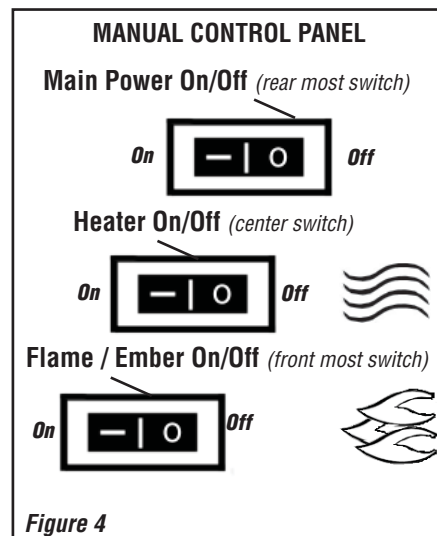

Figure 4
MANUAL CONTROL PANEL OPERATION (refer to *Figures 4 & 5*)
This appliance can be operated either from the manual control panel (see **Figures 4 & 5**) or by using the remote control, wall switch or wall thermostat (optional kits).
- To control the electric fireplace by remote control, the main power on/off switch should be in the off position. This switch is located on the front left floor of firebox (see Figures 4 & 5).
- Remote On/Off Button** - The button on the top left (see A) is the on/off power button. When pressing this button you will hear a beep, this will activate the power to the fireplace. You must then press the display button (C) to activate the lights.